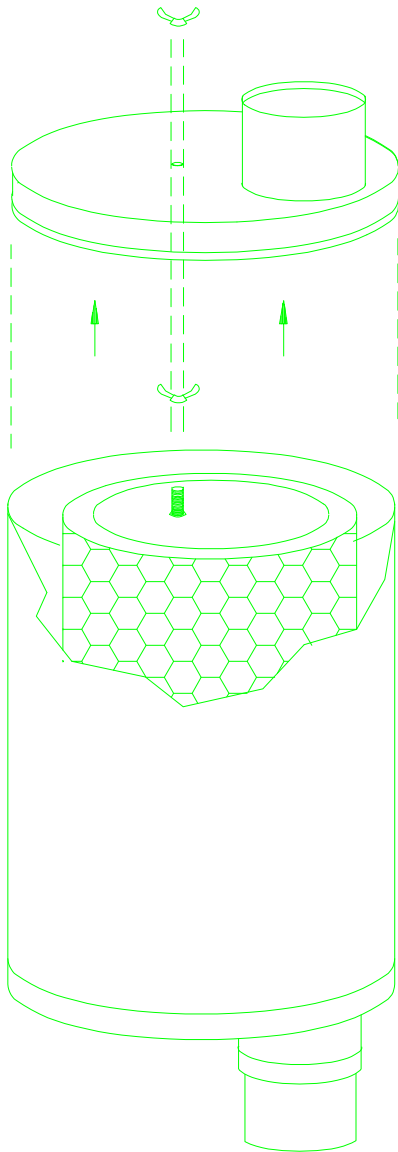

Figure 4.3: Air Filter Canisters
- a. Remove the wing nut on top of the air filter canister. (See Figure 4.3.) It is not necessary to remove the hose clamp.